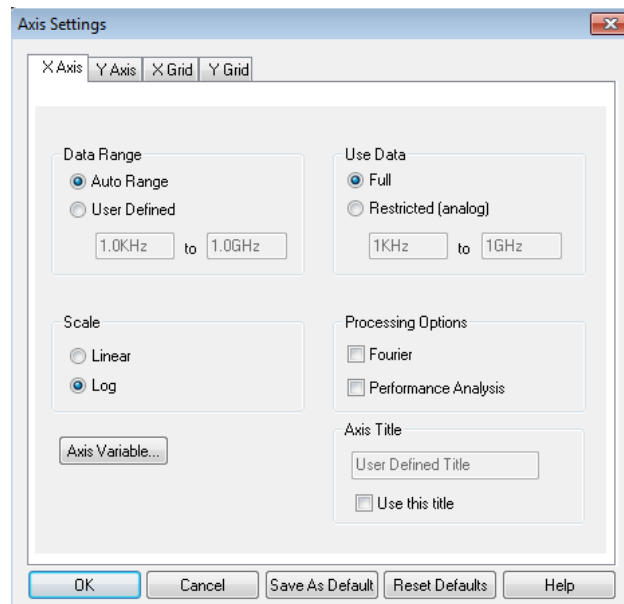

Figure 4. Axes properties or settings menu.
- b. Functions or Marcos can be applied to the variables as shown by Figure 4. Most of these are readily discerned. A few helpful ones are “P()” is phase, “R()” is the real part, and “IMG()” is the imaginary part of the expression.
23. Set the range and scale of the axis by going to “plot” > “axis settings”. The menu is shown in Figure 4. You can reset the scale and axis type (linear or log).